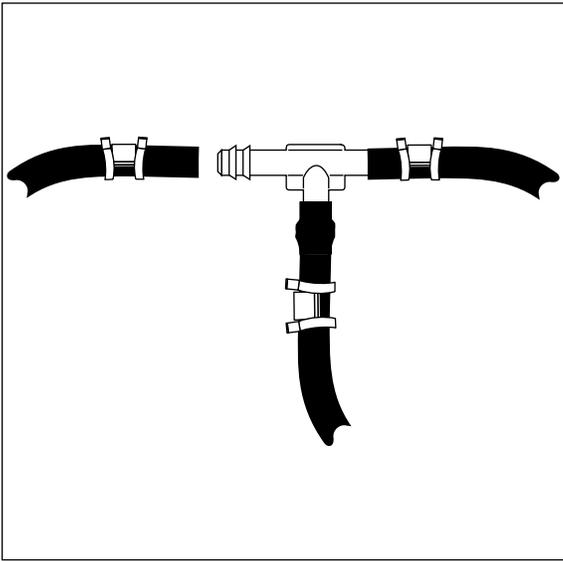

Figure 3
- d. Push the air line over one side of the tee until all the barbs are covered. Repeat procedure for other leg of tee (Figure 3).
- e. With pliers slide the air line clamp forward until it fully covers the barbed section. Repeat for other leg of tee (Figure 3).
Stability translates into safety and should be the priority, meaning the driver may need to sacrifice a perfectly level and comfortable ride. Stability issues include roll control, bounce, dive during braking and sponginess (fig. 3). Tuning out these problems usually requires an increase in pressure.